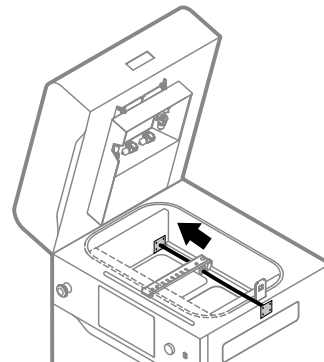

Fig. 12.16. Installing a new Recoater cord.
23. Mount the cord using screws on the opposite side (fig. 12.16).